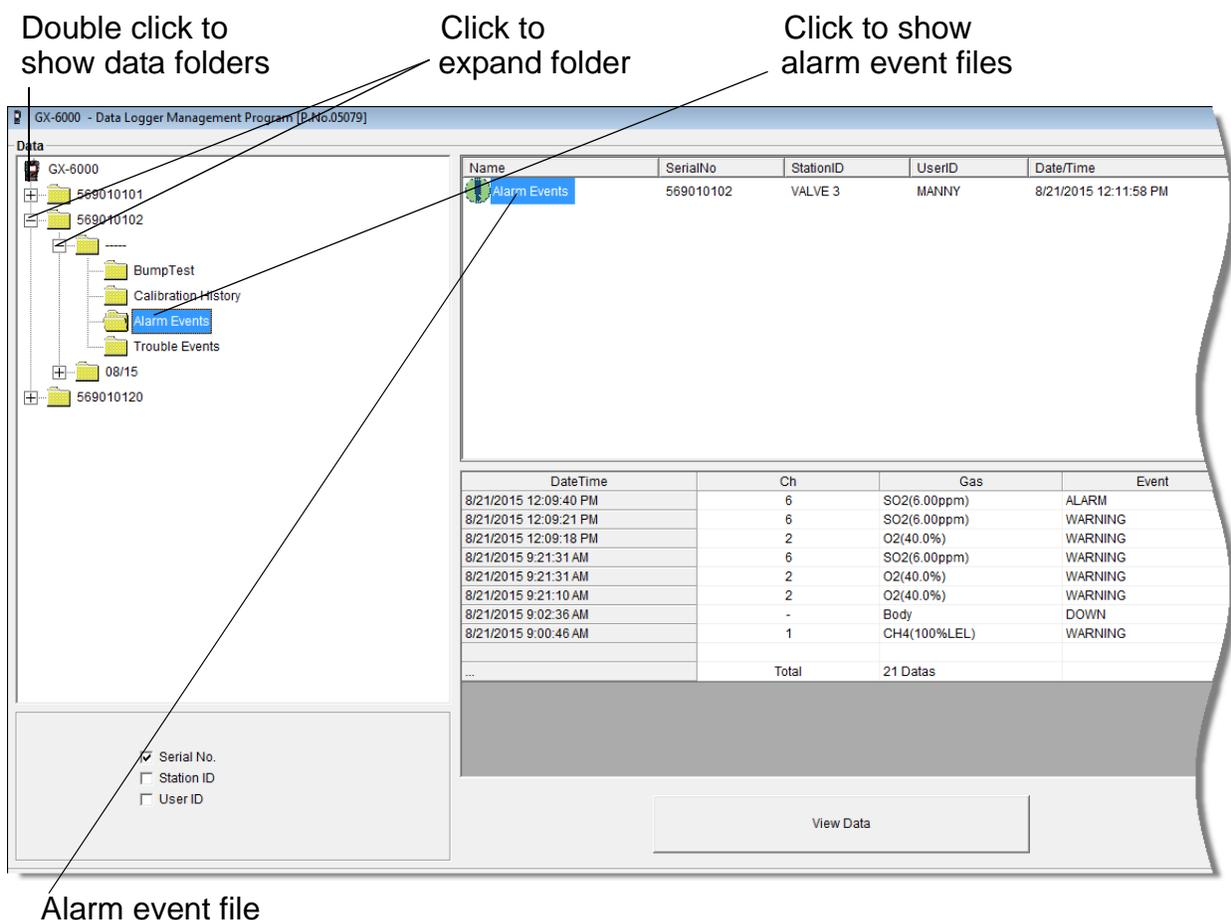

Figure 26: Data Window - Selecting Event Data Files
5. Click the Alarm Events or Trouble Events folder. One or more alarm or trouble event files will appear in the top right frame. An Alarm Events Folder has been opened in the example in Figure 26. If multiple user
8. If you click the **Summary** button, the Data Window will split into two frames one above the other with the event list in the lower frame and the summary information shown in the upper frame. The summary information is the same as the information shown in the upper right frame in Figure 26. To return to the one-frame format, click **Summary** again.